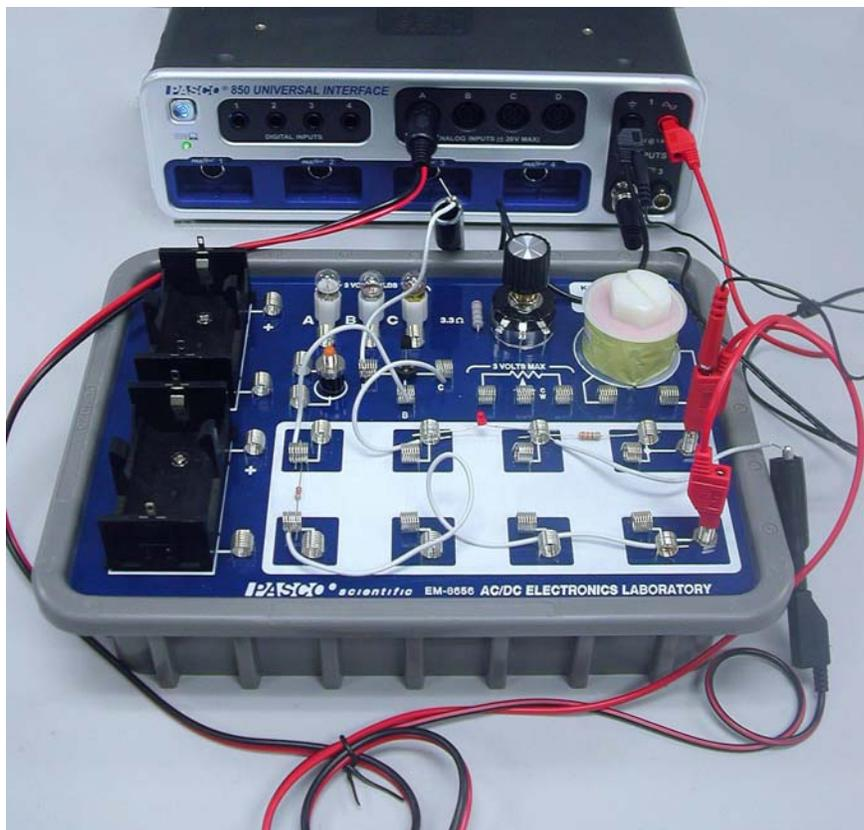

Figure 3: Setup
7. Attach a Voltage Sensor to Analog Input A on the 850 Universal Interface. Its red end should attach to the upper jack on the circuit board by the 330 Ω resistor (see Figure 3). Attach an alligator clip to the black end, clip it to a white wire and attach the white wire to a spring clip at the right end of the diode. *Caution: if you attach the alligator clip directly to the spring clip, you will tend to pull the spring loose from the circuit board.*
8. Attach a red patch cord from red jack on Output 1 on the 850 Universal Interface, to the lower banana jack on the circuit board. Attach a black patch cord to the Output 1 black jack. Attach an alligator clip to the black end, clip it to a white wire and attach the white wire to a spring clip by the transistor emitter (E).
9. Attach the BNC connector to Output 2 on the 850 Universal Interface. Its red end should attach to the red patch cord in the upper jack on the circuit board (see Figures 3 & 4). The black plugs into the black patch cord already in the black jack from Output 1 so both output power supplies have a common ground.